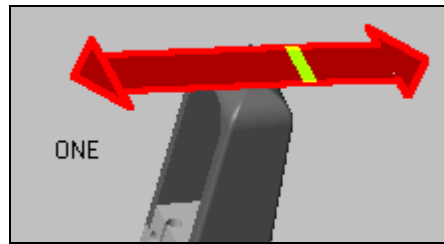

Figure 15 - Move to Position Slider
2. MoveTo – Left click anywhere on the slider. The fingers will move to the position clicked on. See Figure 15.